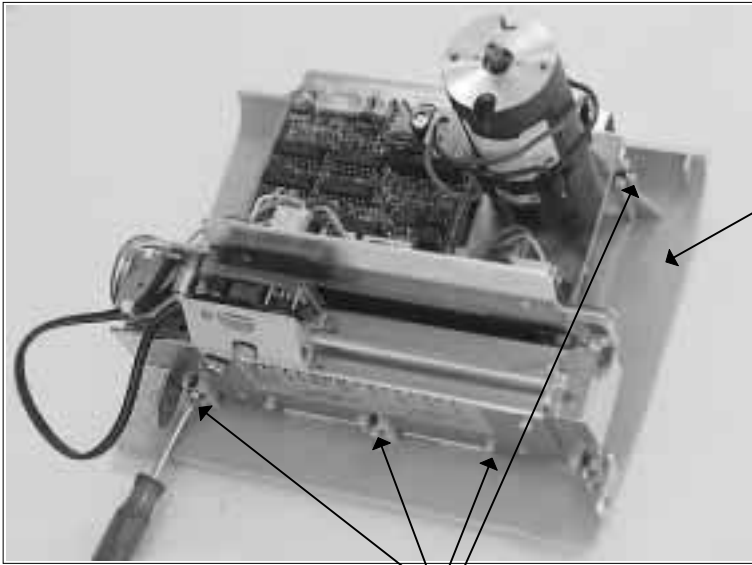

Fig. 7-3
4.	Loosen (5) screws holding the cutter unit to the front mounting plate. Fig.7-3